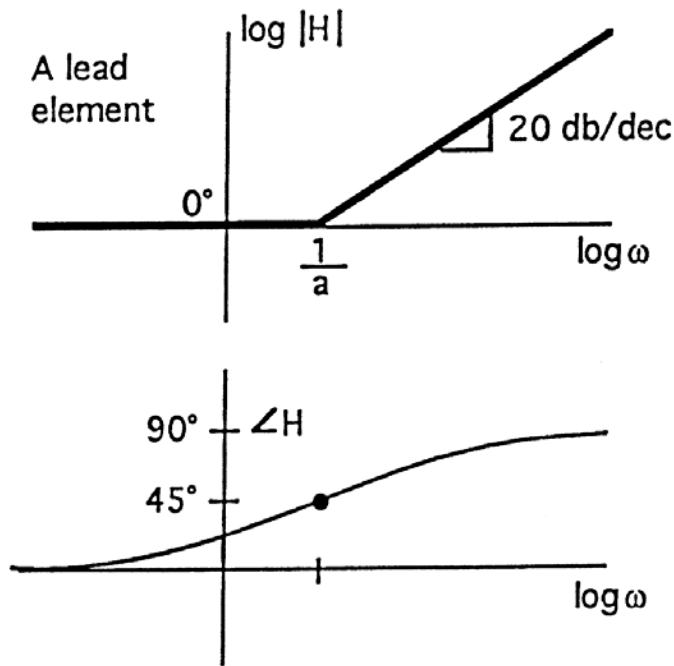

Figure 23
the curves in Fig. 23 to the left so the phase lead occurs over a wider frequency range. It also increases the time constant of the lag in (30) so the lag also covers a wider frequency range. The Bode diagram of (30) will look just like
Fig. 23 but with everything upside down, again reflecting that $\frac{R}{C} \Rightarrow \frac{1}{H(s)}$.